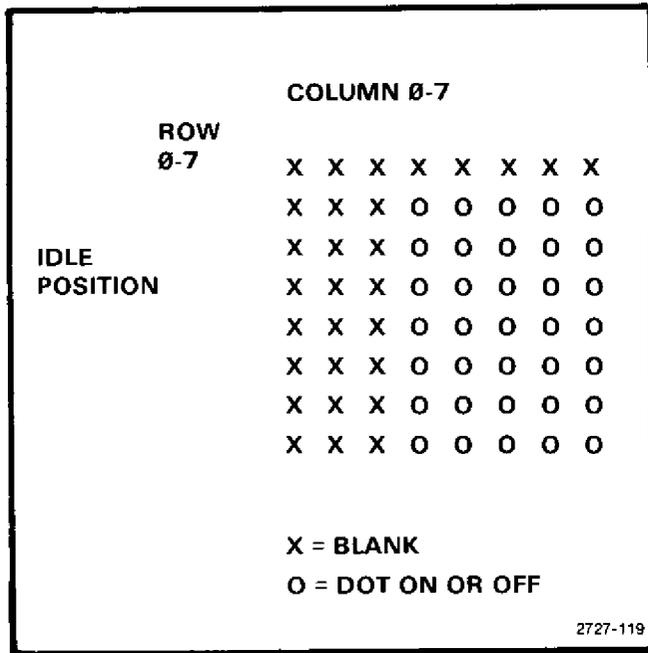

Fig. 5-16. Character scan.
**Character Scan.** Although the 8678 character generator IC is often used in raster scans, in this application it is used to write complete characters, as shown in Fig. 5-16. A character is drawn as a pattern of dots in an 8 x 8 matrix where the top row and first three columns are blank. These blank dots allow for beam retrace and spacing. The idle position between characters is indicated on the figure.